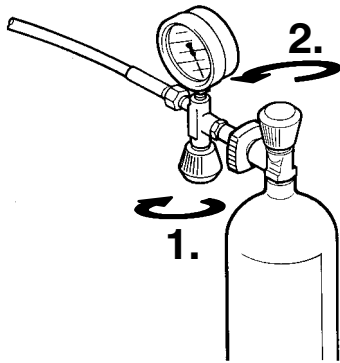

Fig. 9 Filling air bottle
- Open filling valve (1, Fig. 9).
- Open bottle valve (2) - bottle will be filled. Drain condensate regularly during filling. On units with automatic condensate drain check that condensate is drained regularly.